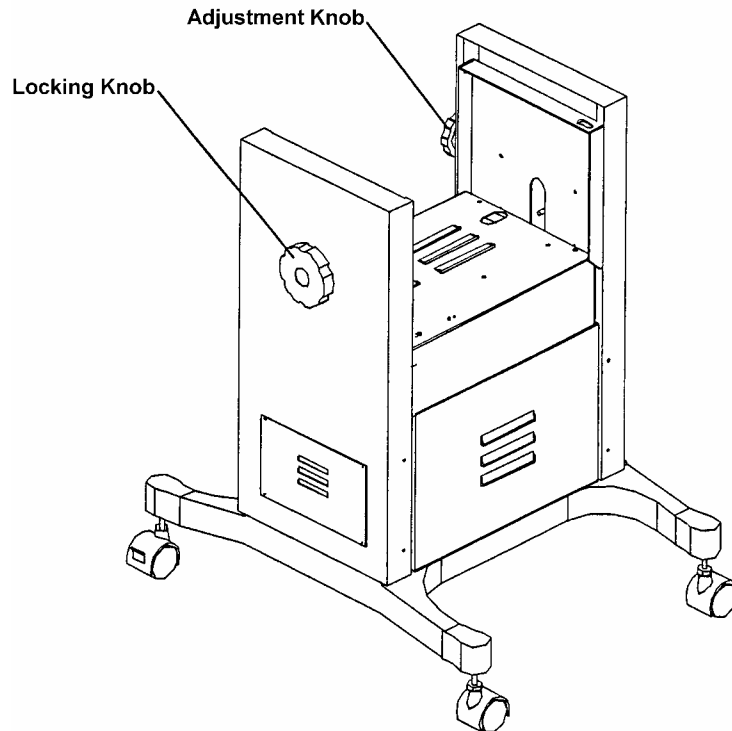

Figure 4
16. Roll the feeder up to the duplicator. Adjust the height of the conveyor to match the duplicator front apron. If the feeder front stop plate hook is not even with the upper edge of the duplicator's front apron adjust the feed stand. To adjust the stand height [Figure 4], loosen the two knobs on either side of the stand. Turning these locking knobs counterclockwise unlocks the stand, which allows it to be adjusted. Height adjustment is made by turning the third knob (Adjusting Knob) clockwise to raise the height of the stand, and counterclockwise to lower it. Tighten the locking knobs after the height is adjusted. If the feeder is to be used on more than one duplicator, it is advisable to adjust the duplicators to one height thus eliminating additional set up time.